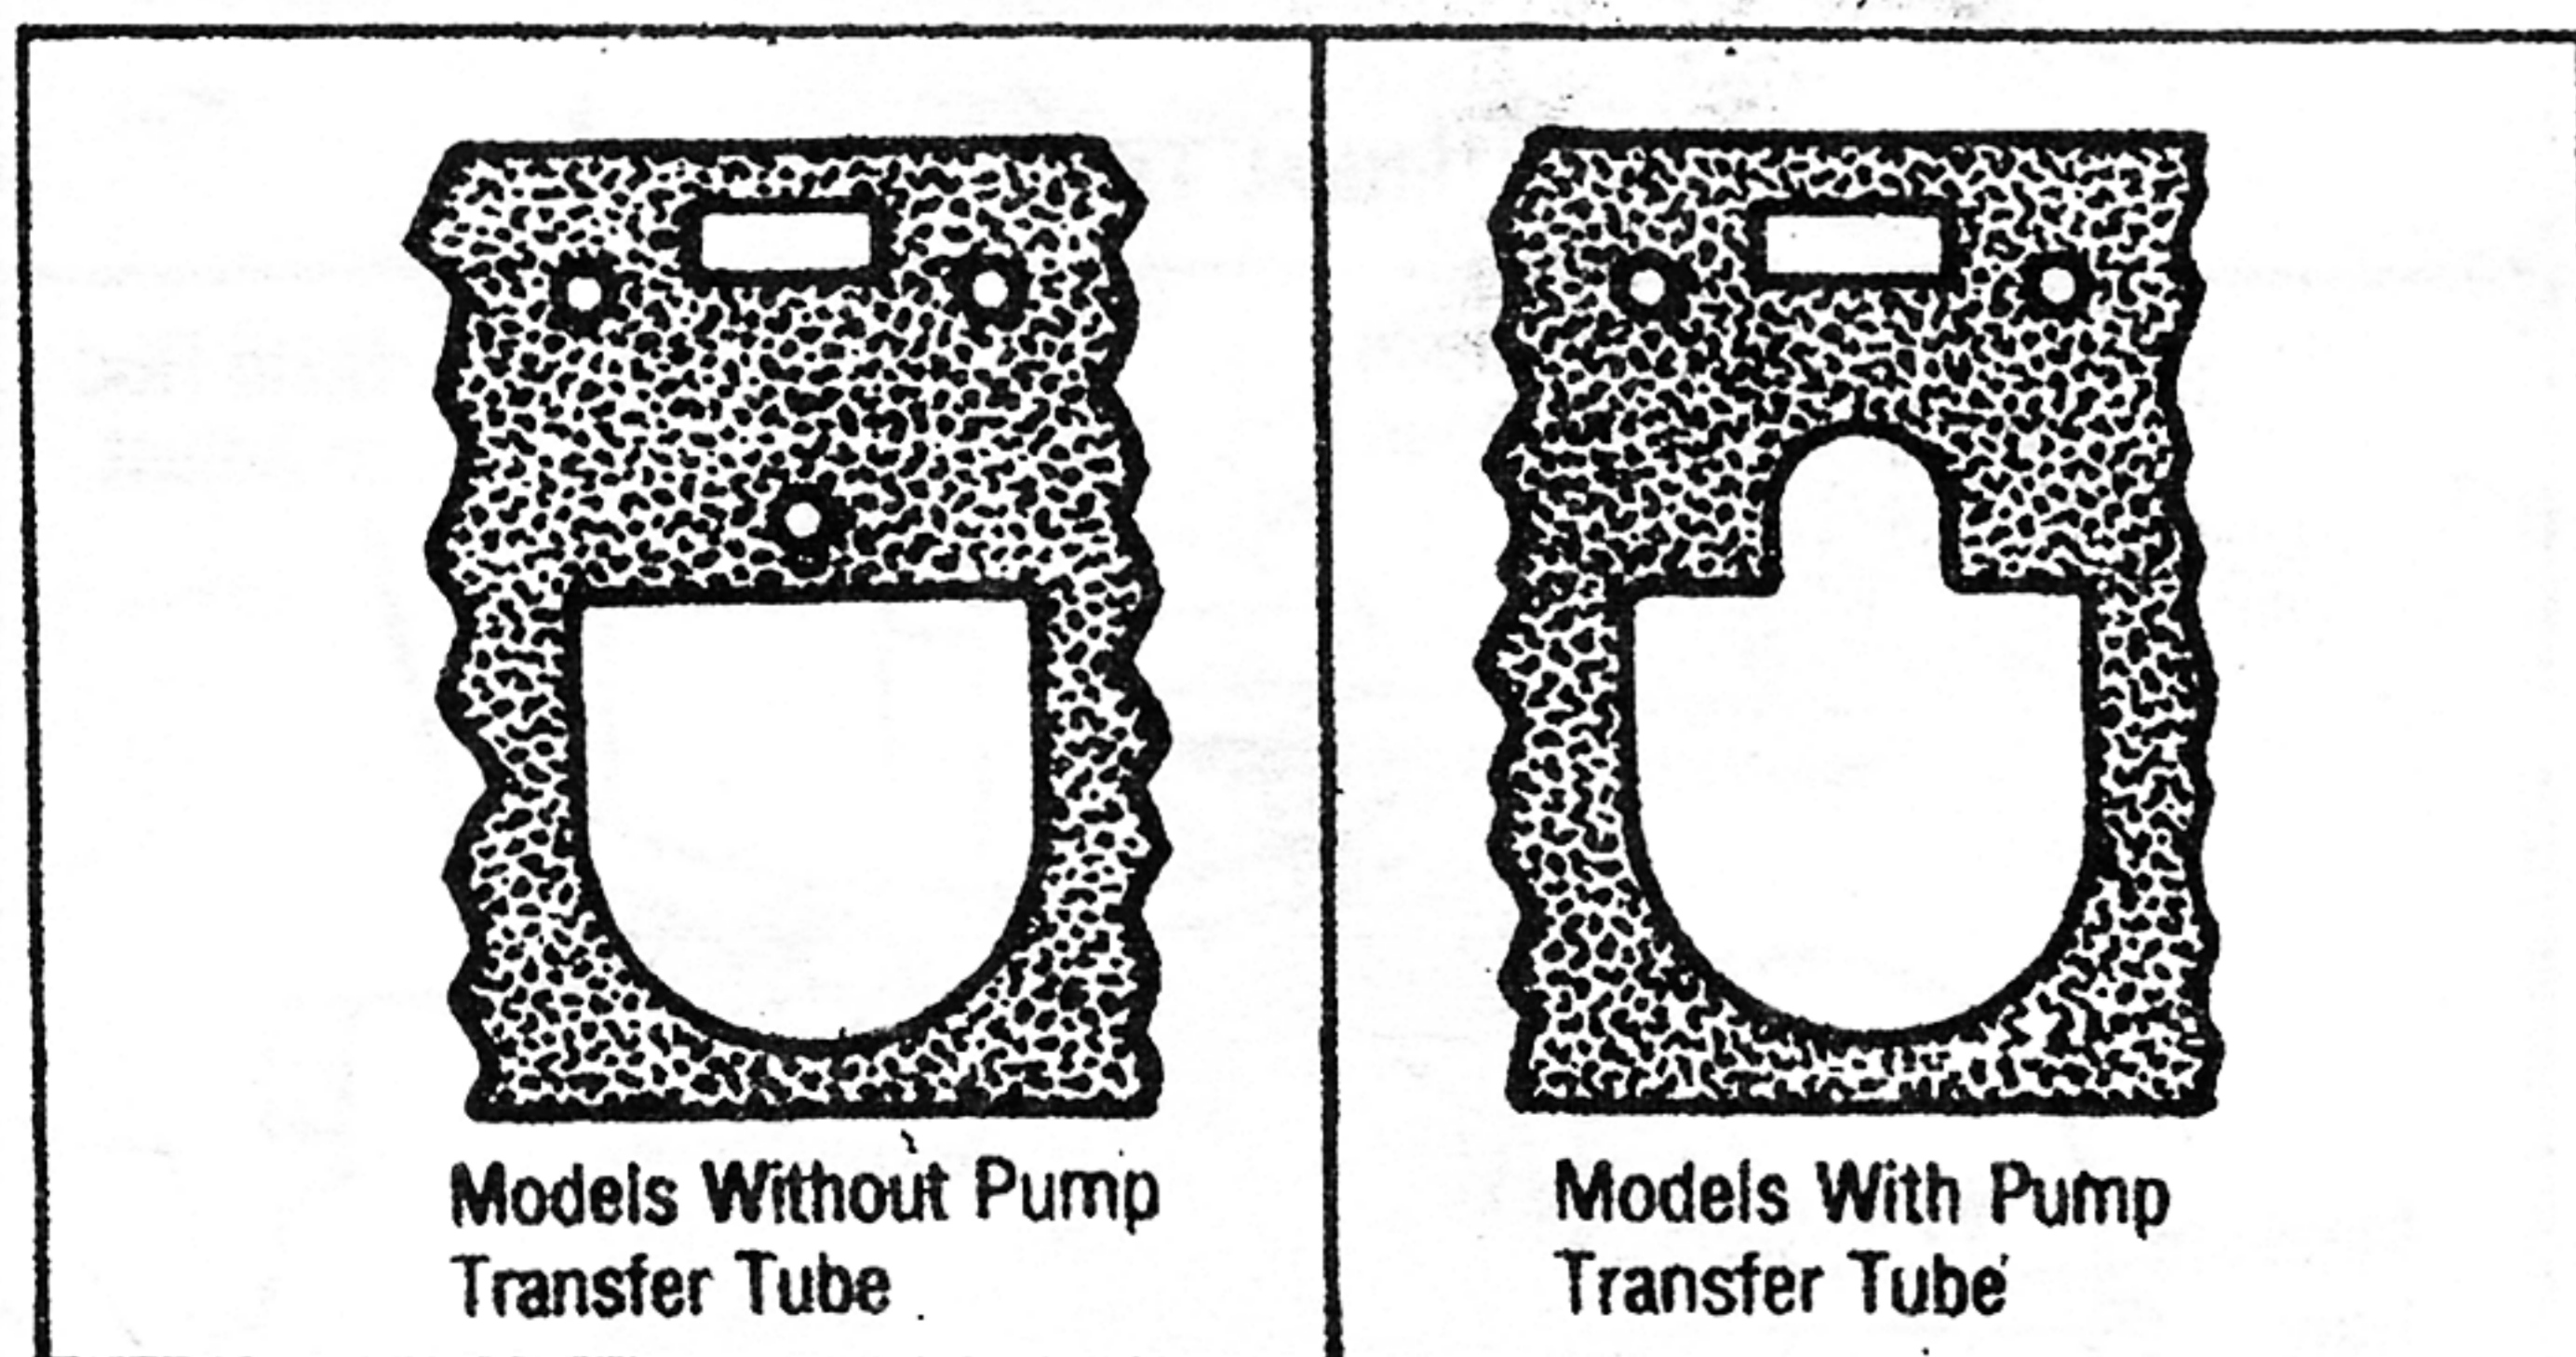

Fig. 1 Metering Body Gasket Identification
- Some late model carburetors will be equipped with a pump transfer tube in metering body. The metering body-to-main body gasket used on models with a pump transfer tube differs slightly from models without a pump transfer tube. These gaskets are not interchangeable. See Fig. 1.